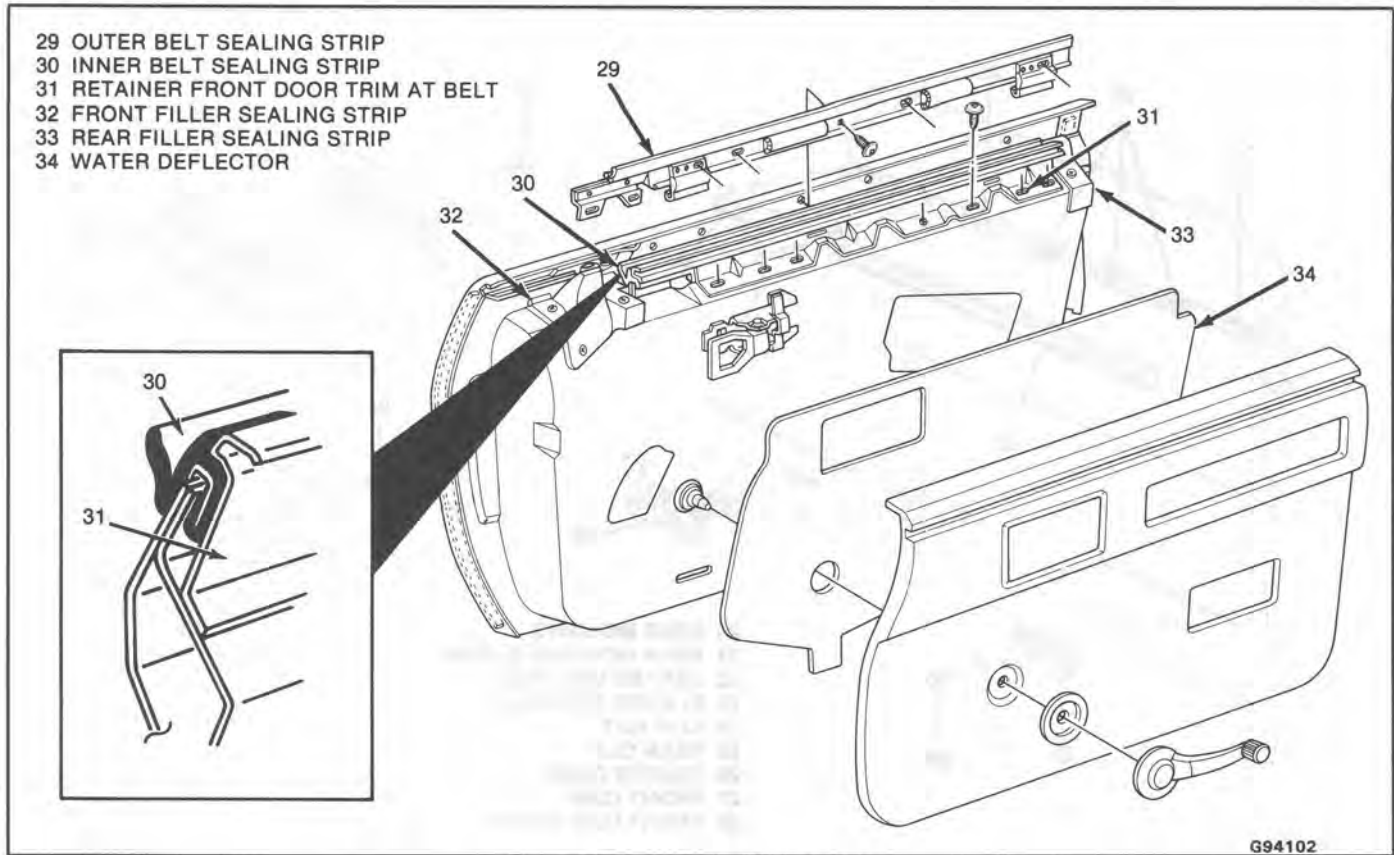

Fig. 6-Door Sealing Components
**Inner Door Window Belt Sealing Strip****Remove or Disconnect (Figure 6)**
2. Retainer (31)
3. Sealing strip (30)
**Install or Connect (Figure 6)**
1. Sealing strip (30)
#### ↔ Remove or Disconnect (Figure 6)
#### ↔ Install or Connect (Figure 6)